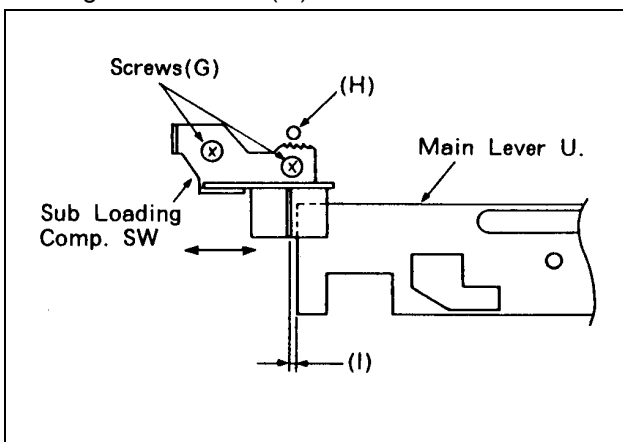

Figure 7-24-4 Sub loading completion Switch
3. Loosen 2 screws (G) as shown in figure 7-24-4.
4. Insert Fine adjustment driver (VFK0446) into the hole (H).
5. Turn Fine adjustment driver (VFK0446) so that clearance (I) is $1 \pm 0.2\text{mm}$. as shown in figure 7-24-4
6. Tighten 2 screws (G).